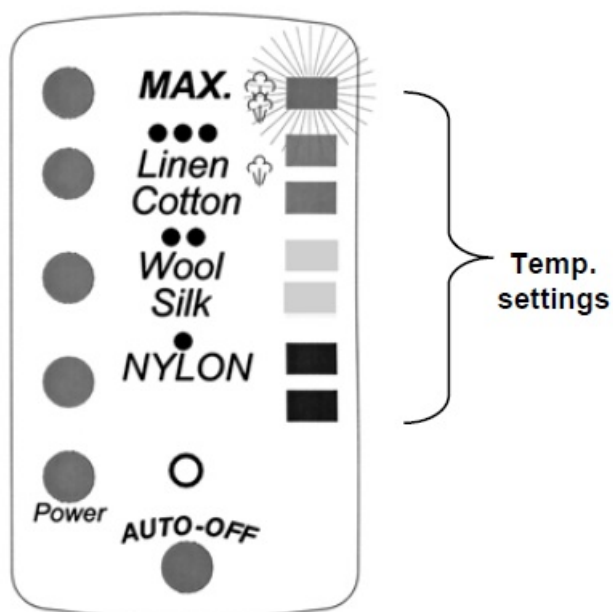

Fig. 5
4. The light on the right side of the LED display panel will stop flashing when the desired temperature has been reached. (Fig. 5)